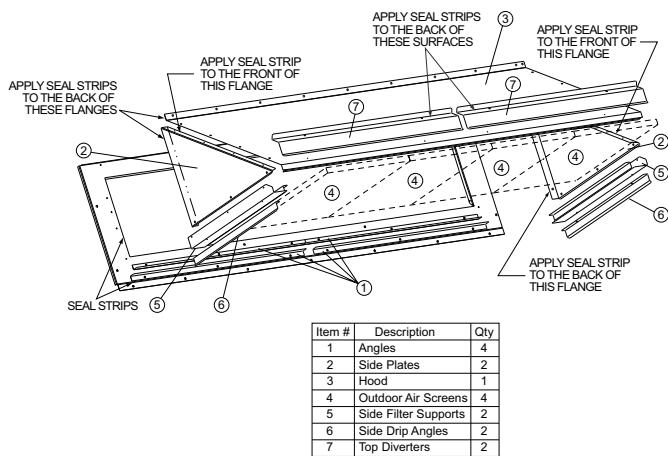

Fig. 14 — Hood Part Identification and Seal Strip
See Fig. 14 for identification of the various parts of the hood assembly.
3. Apply seal strip to mating flanges on the side plates of the hood. (See Fig. 14).
5. Apply seal strip to mating flange of the hood. (See Fig. 14).